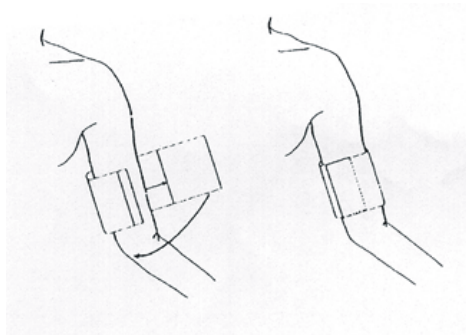

Figure 9-4 Applying the Cuff
- 3) Apply the cuff to the patient; make sure that the symbol "Φ" is over the appropriate artery (Refer to figure 9-4). Ensure that the cuff is not wrapped too tightly around the limb. Excessive tightness may cause discoloration and eventual ischemia of the extremities.